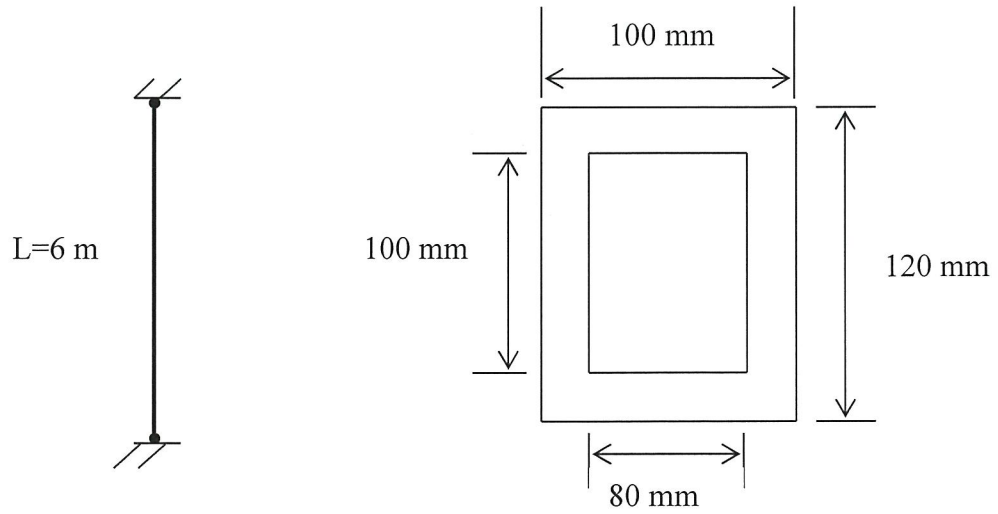

FIGURE Q3(c)
- (c) A column pinned at both ends is as shown in **Figure Q3(c)**. Determine whether the column is slender or not. Assume L_e/r for slender column is > 30 . Given $E=23$ GPa and safety factor is 2. Determine the safe load for the column.